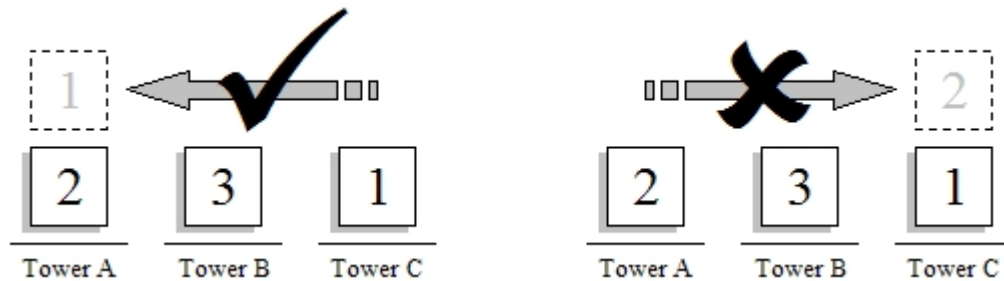

Figure 2.2: Examples of a legal and an illegal move.
2. You may not place a block on top of a lower-numbered block, as illustrated in Figure 2.2.